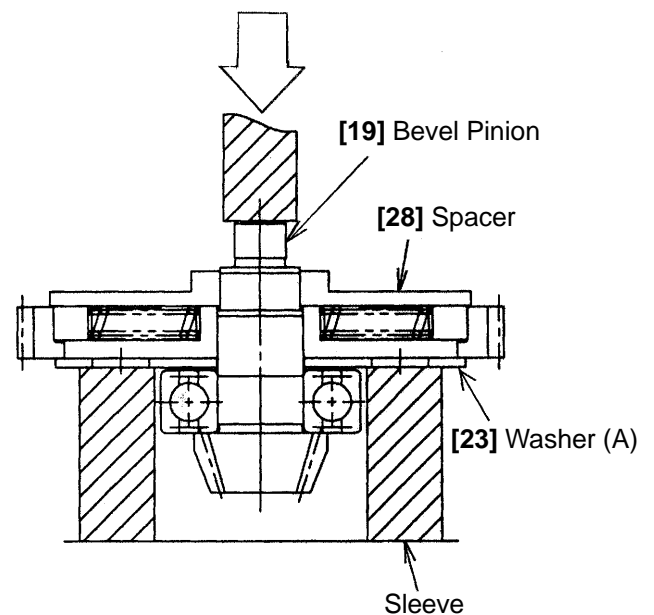

Fig. 11
The slip clutch ass'y can be removed in the following procedure. First pull out the Ball Bearing 629VVC2PS2L **[29]** with a bearing puller, support Washer (A) **[23]** on a sleeve as shown in Fig. 11 and release the Bevel Pinion **[19]** from the press-fitting by pushing it from the Spacer **[28]** side using a hand press. When removing the Gear Holder **[24]** from the Second Gear **[27]**, it is recommended to keep them inside a plastic bag during disassembly to prevent Springs (C) **[25]** and Needle Pins D6 x 6 **[26]** from scattering.